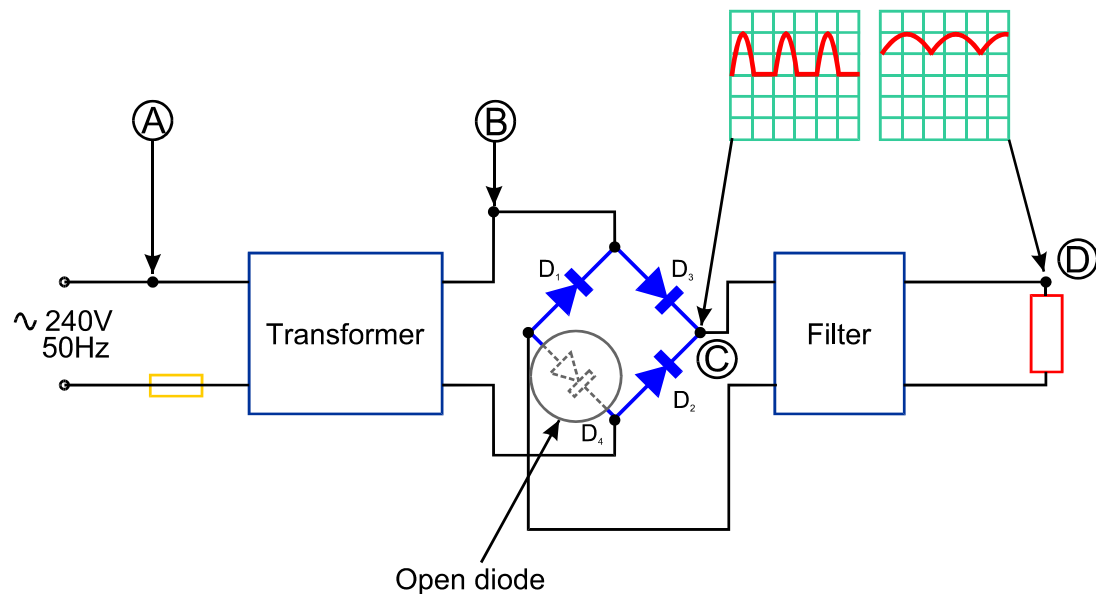

Figure 8.15
- **Open diode.** Let us assume that the same diode (D_4) is open. No current flows through an open diode in both directions. During the negative half-period, this diode appears to the circuit to be reverse-biased, and therefore it has no impact on the output voltage. However, during the positive half-period, the path for the current is broken and no voltage appears at the output. In other words, the circuit works as a half-wave rectifier. This can be detected by the larger ripples in the output voltage. In addition, the frequency of the ripples is 50 Hz, instead of 100 Hz. This is illustrated in Figure 8.15. Similarly, the circuit can be analyzed for other open diodes.